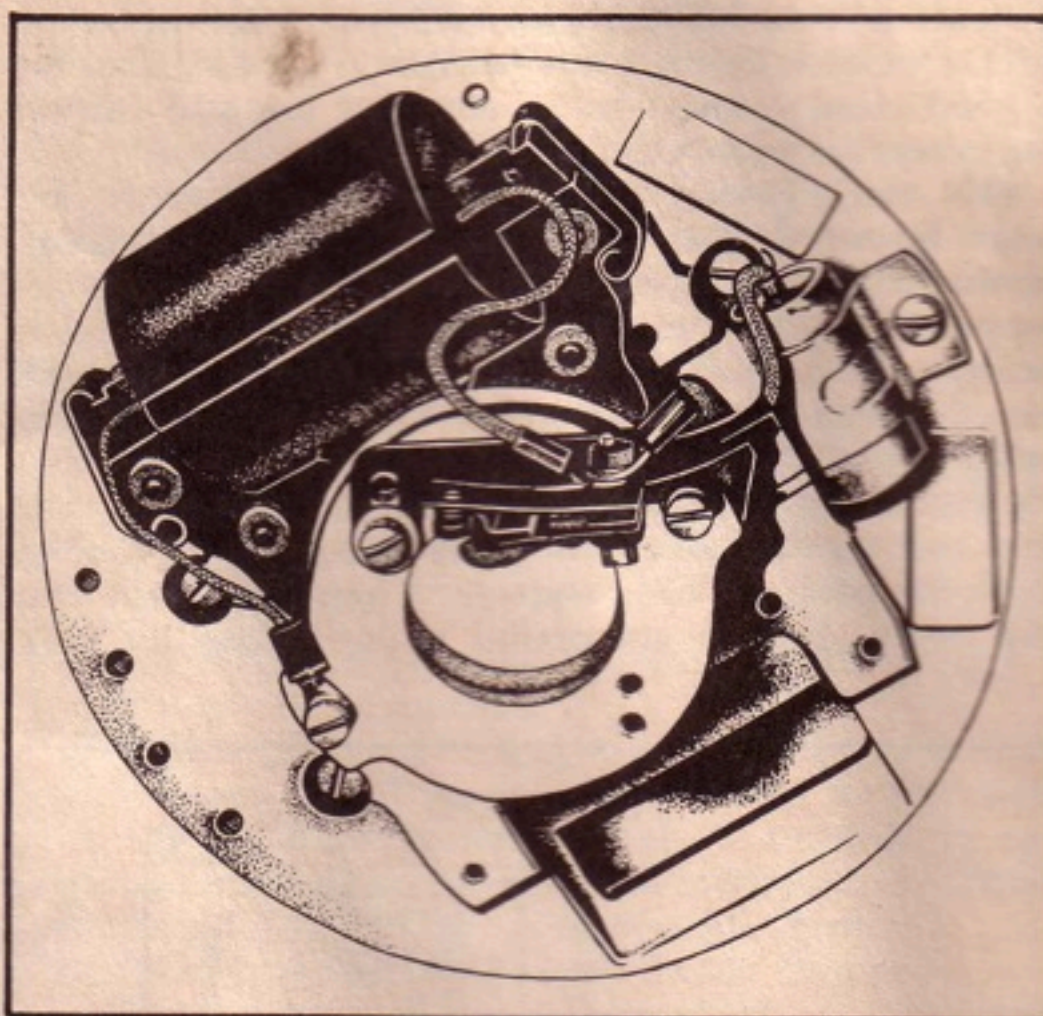

Figure B-16. Bearing Plate With Scintilla Magneto Parts Attached
(1) In the Scintilla magneto, the stator, or magnet, is mounted on the crankshaft, instead of on the flywheel. Both magnetos have the coil, core, breaker points and condenser mounted on a stator plate. Some stator plates for Scintilla-equipped engines have an additional recess for attaching a lighting coil, if desired. (See Figures B-16 and B-19.)